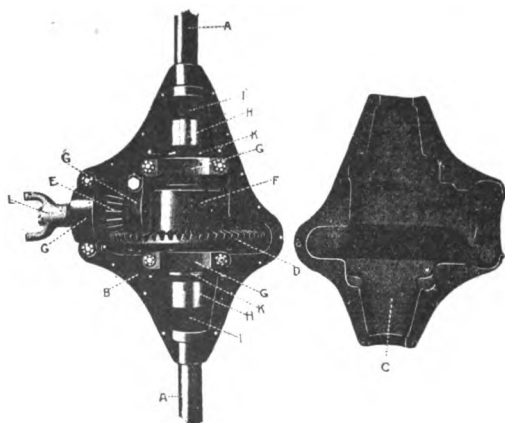

FIG. 8
**THE BEVEL GEAR DRIVE.**—Figure 8 shows the mechanism of the Bevel driving gear and differential. *A* and *B* being the